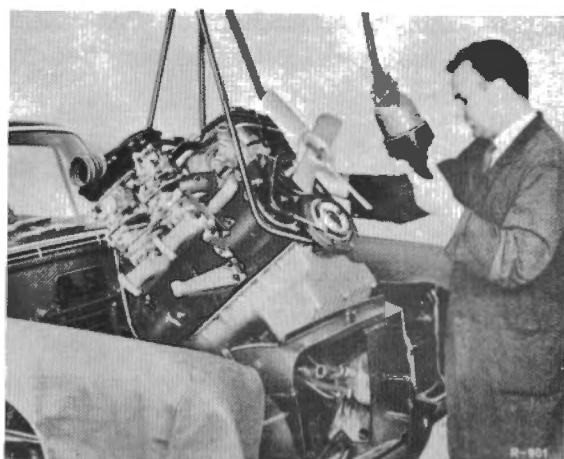

Fig. 00-1/7
25. Screw the support to the rear engine mounting and to the chassis base panel, noting the positions marked during removal (see Fig. 00-1/4).